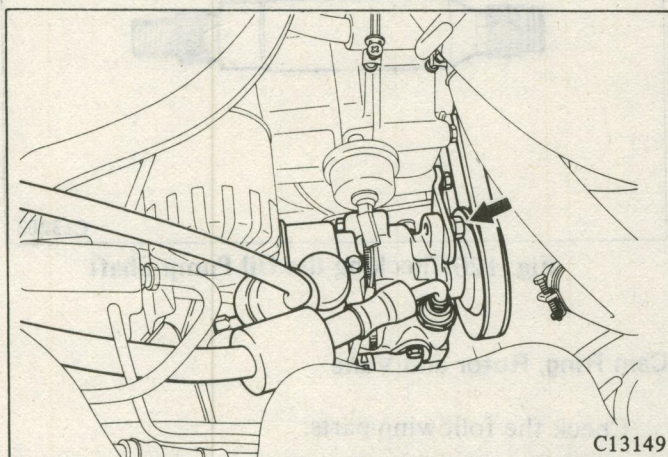

Fig. 115 Removing the Oil Pump
(3) Remove the oil pump attaching bolts and take out the pump. (Fig. 115)